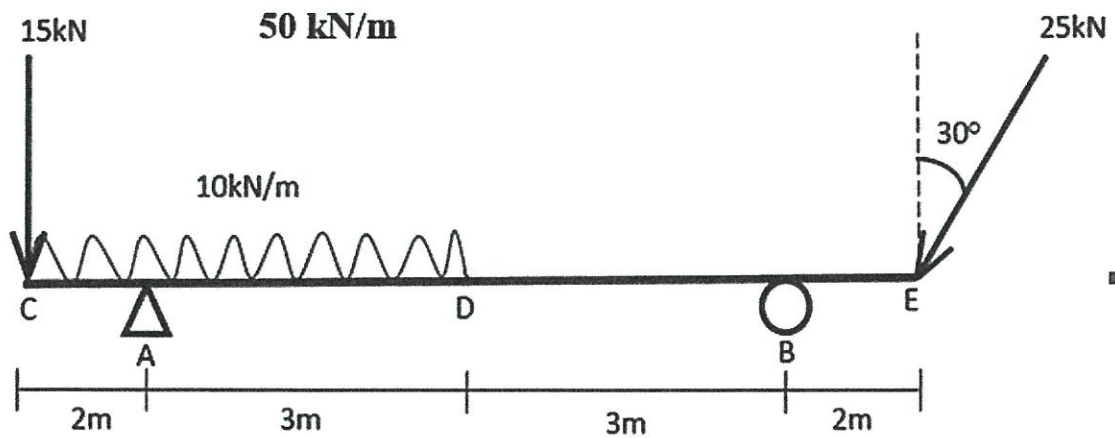

Figure Q3: A Beam
- Q3** A beam as shown in **Figure Q3** in **Appendix II** is loaded with 10 kN/m uniform distributed load at points C to D and 15 kN concentrated load at point C and 25 kN at point E. The beam is pin support at point A and roller support at point B.